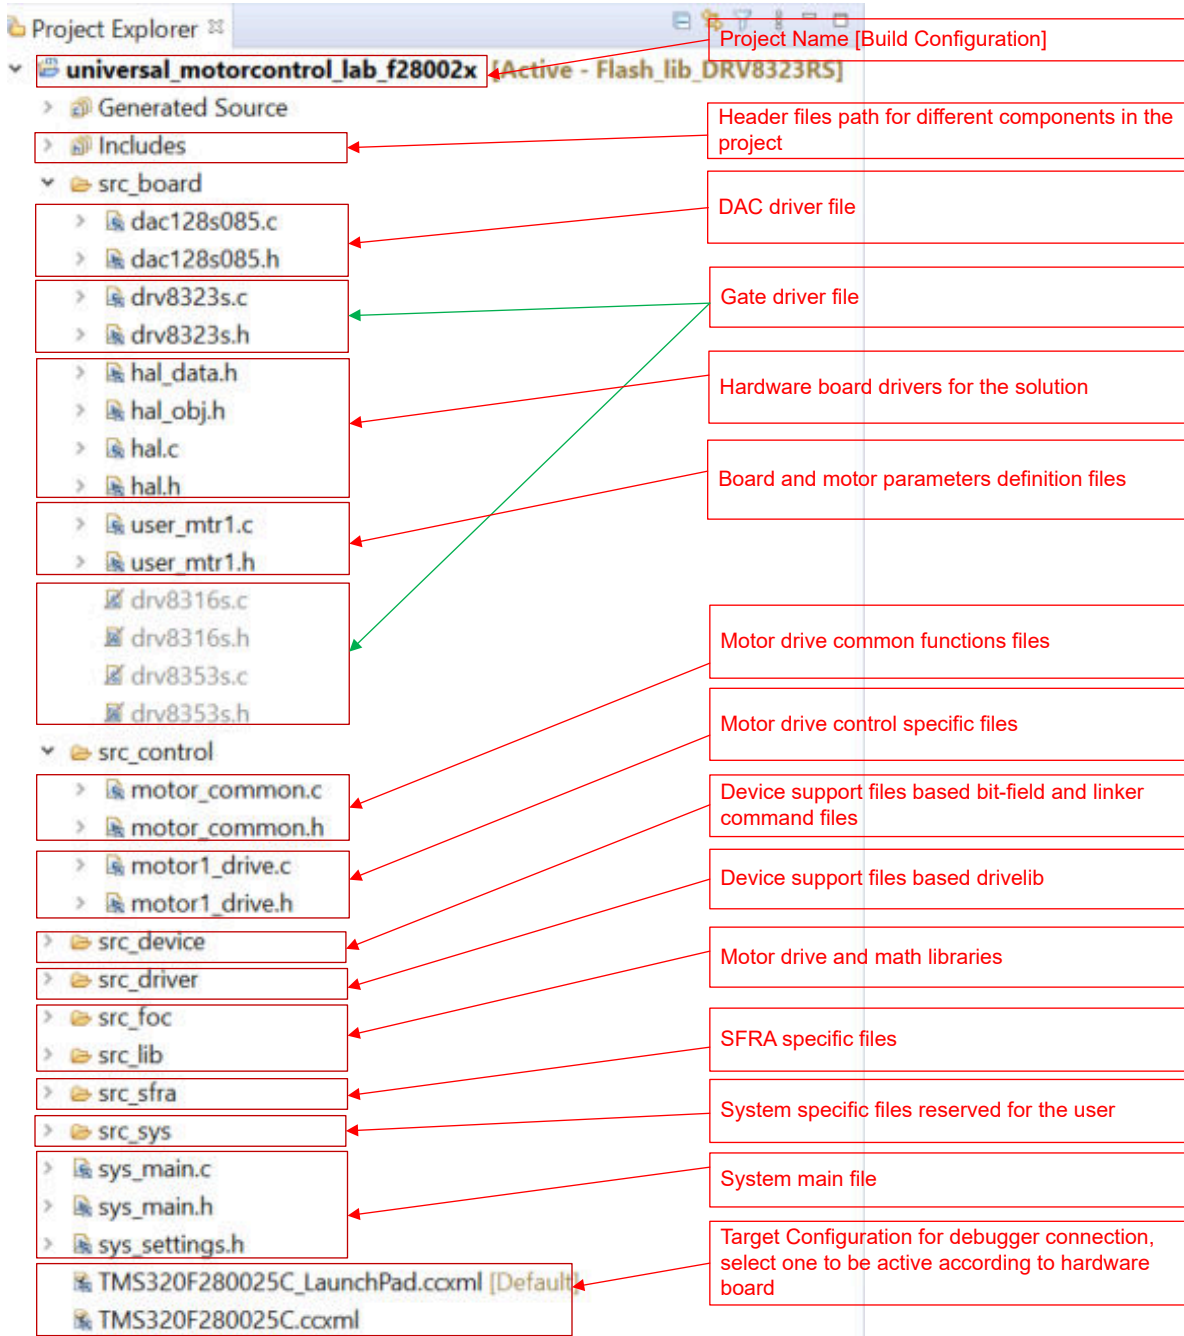

Figure 2-16. Project Explorer View of the Example Lab
4. Select the right target configuration file (.ccxml) as shown in Figure 2-16 by right clicking on the file name to select "Set as Active Target Configuration" and "Set as Default Target Configuration" on the pop-up menu.
Once the project is imported, the project explorer will appear inside CCS as shown in Figure 2-16.